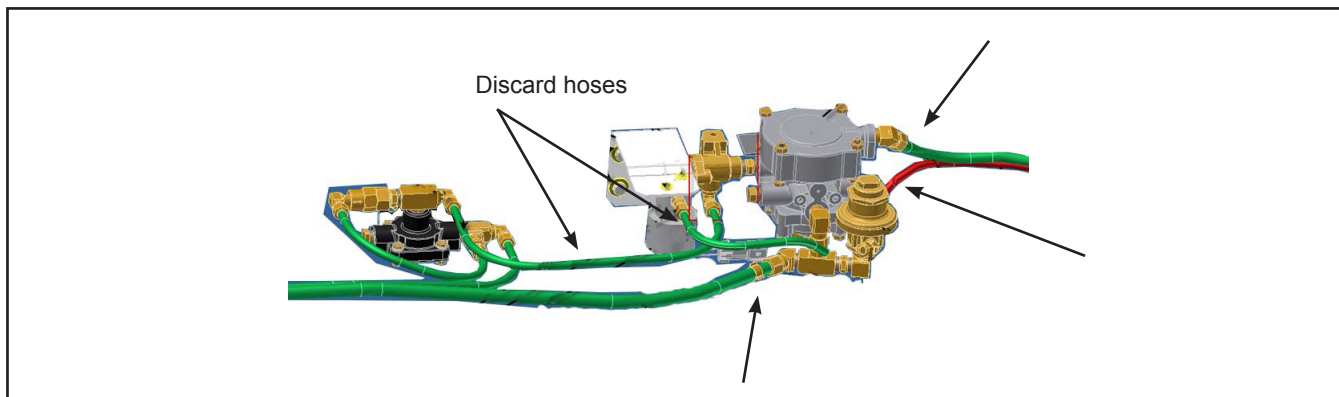

Figure 3 - Hoses to be Disconnected
- 1.7. Discard the hoses shown in Figure 3.